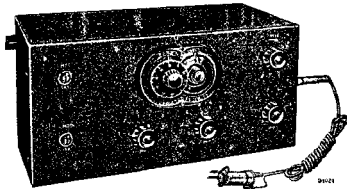

Fig. 1.
1. A service oscillator similar to Philips Type GM.2880 (see fig. 1).